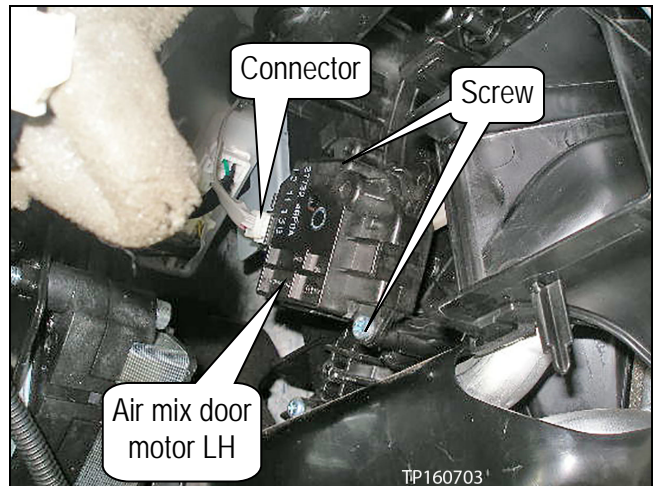

Figure 8
6. Remove the air mix door motor LH (see Figure 8).
- a. Remove the two (2) screws.